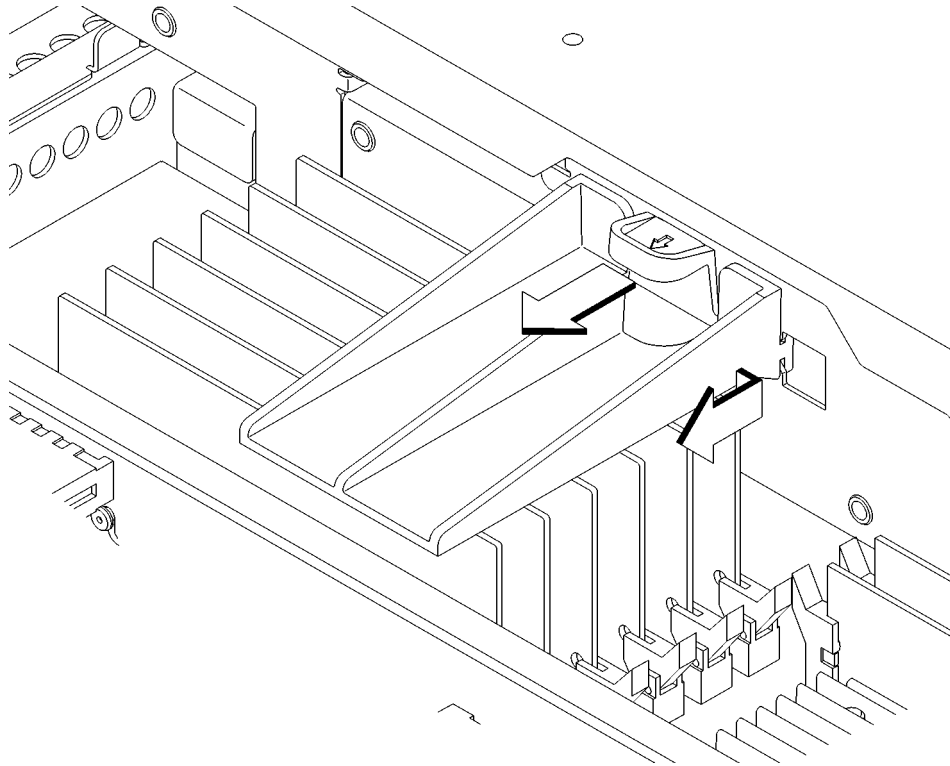

Figure 24
- 1 Pull the tab and slide the memory retainer toward the front of the main tray to remove it, as shown in Figure 24.